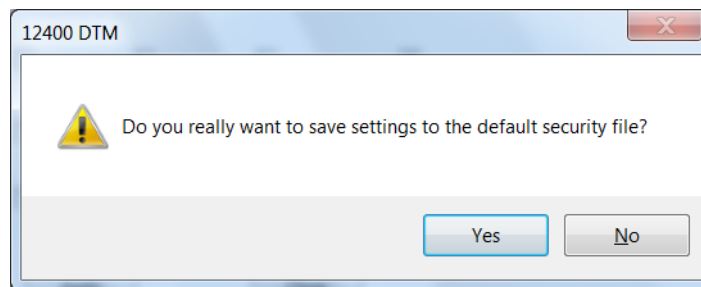

Figure 37 Save Security Settings to Default File Confirmation
1. Click and a confirmation dialog appears (Figure 37).